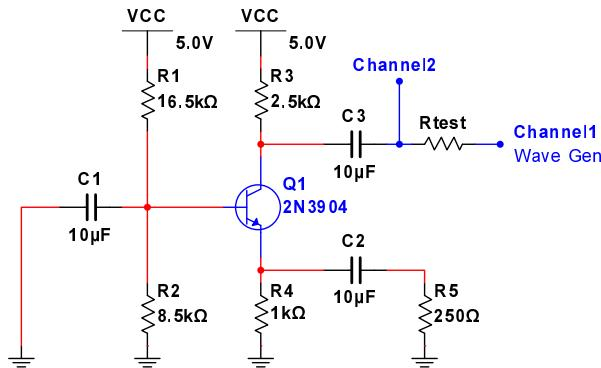

Figure 27: Amplifier setup for output resistance measurement
- Insert a test resistor (R_{test}) that is close to the calculated value of the output resistance R_o as in Fig. 27
- Connect **Channel 1**, **Channel 2** and **Wave Gen** as shown in Fig. 27